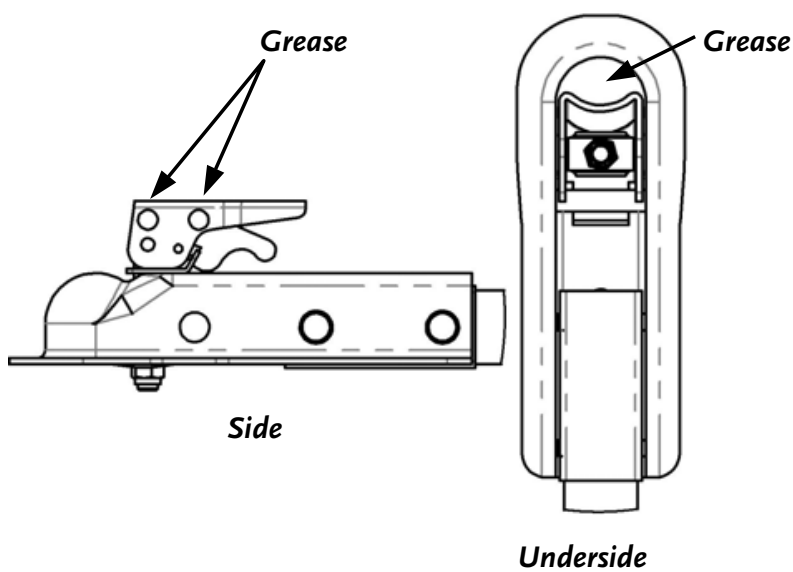

Figure 57
4. Apply the grease to the Pivot Pins of the Latch on the Coupler and to the underside of the Coupler (**Figure 57**).